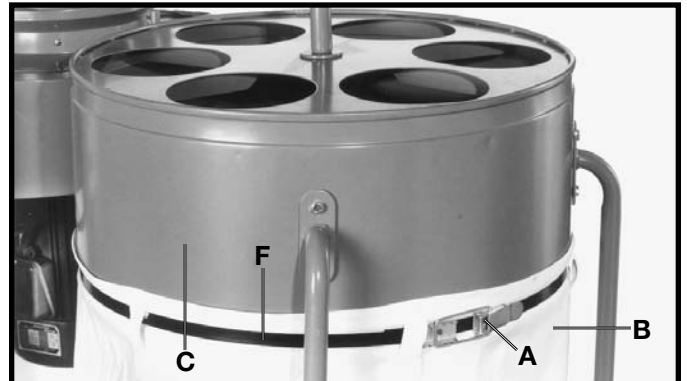

Fig. 29
3. Clamp the dust collection bag (B) Fig. 29, around drum (C) with the locking band (F). Assemble the remaining dust collection bag to the drum at the other side of the dust collector. **NOTE:** Make certain locking band (F) Fig. 29, is positioned in the channel of drum (C) before fastening clamp (A).